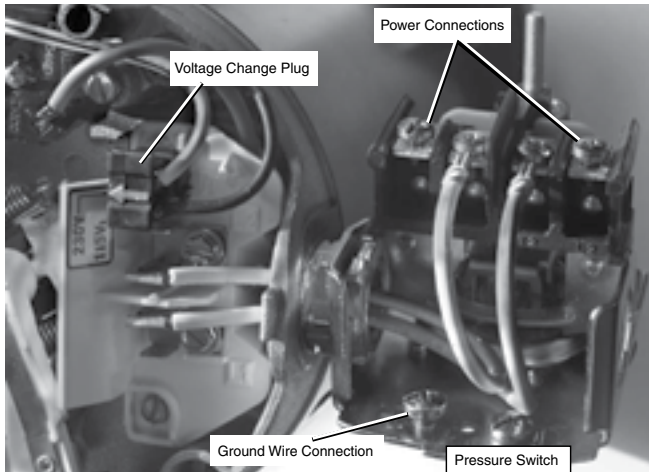

Figure 8: Voltage set to 230 V, Plug Type
4. Attach the incoming power leads to the two outer screws on the pressure switch as shown in Figure 8.
5. Attach the ground wire to one of the grounding connections, shown in Figure 8.
1. Connect the ground wire first as shown in Figure 8. The ground wire must be a solid copper wire at least as large as the power supply wires.
4. Connect the power supply wires to the pressure switch as shown in Figure 8.